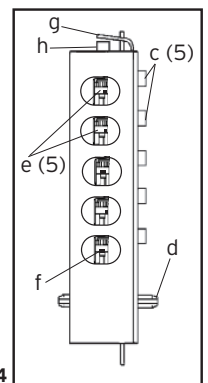

Fig. 4
4. Using pliers or equivalent, rotate the control shaft **(d)** counterclockwise to clear the chamber and release. The lockout slide **(g)** should pop out (button underneath will stay depressed) **(See Figure 4)**.
5. Depress the key-stem(s) **(c)** that you want in the combination, releasing each after it is depressed **(See Figure 4)**.
6. Once all the digits in the new combination have been depressed, with the pliers or an equivalent tool, rotate the control shaft **(d)** clockwise **(See Figure 4)**. The new combination is now set.
7. Look at the code gear pockets **(f)**. The numbers in the new combination should not be at the shear line (open position) **(See Figure 4)**.